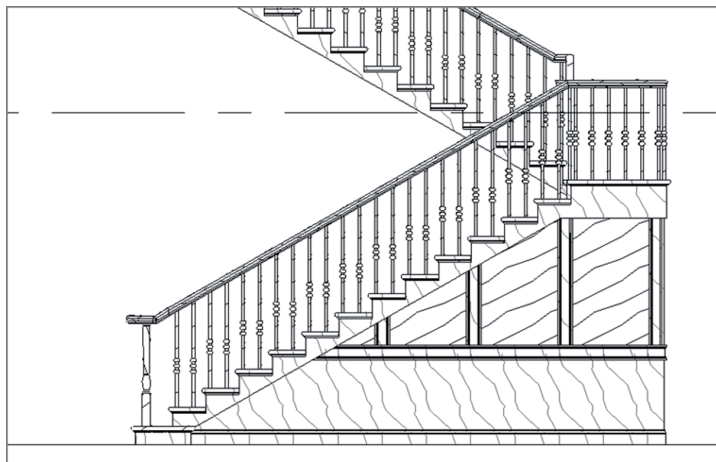

FIGURE BC1.20: The finished south wall of the stairs
17. Repeat the procedure so that your elevation looks like Figure BC1.20.